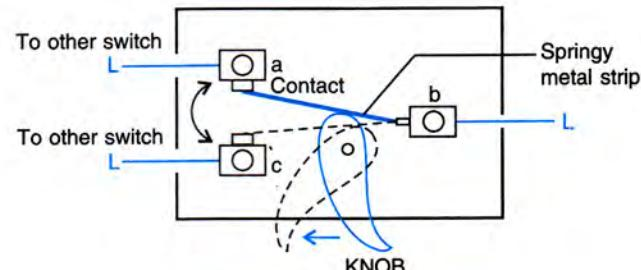

Fig. 9.20 Dual control switch
The connections of a dual control switch are illustrated in Fig. 9.20. It is operated in two ways : (1) by shifting the knob of switch to the right (or up), the live wire L connected at the terminal ‘b’ makes contact to the terminal ‘a’ so as to make the connection ‘ba’ through the spring metal strip, and (2) by shifting the knob to the left (or down), the terminal ‘b’ makes contact with the terminal ‘c’ so as to make the connection ‘bc’.